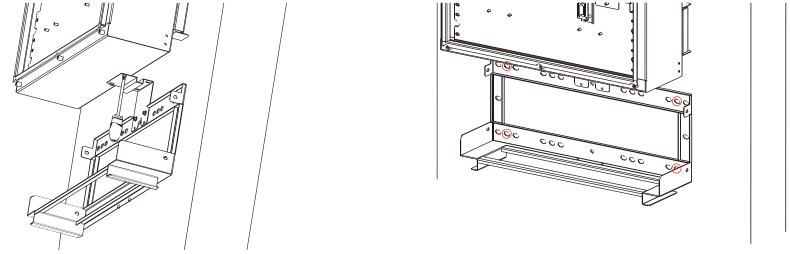

**Figure 2.21 Install M4856-P Expansion Bracket**
**Step 4** Use SW7 sleeve or other tools for the M4 flange and M4 flange nuts to connect the M4856-P wall bracket to the expansion bracket, as shown in Figure 2.21.